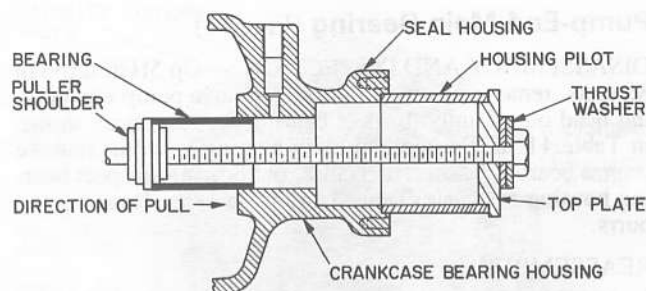

Fig. 47 — Seal-End Main Bearing (5F40, 60)
3. Press bearing into place using a puller shoulder (Table 12 and Fig. 47 and 48) and jack screw or bearing press.
DISASSEMBLY AND INSPECTION — With crankshaft removed, use a bearing puller with a shouldering device to remove and install seal-end main bearings (Fig. 47 and 48). Bearing pullers and sleeve pullers are available from the Robinair Manufacturing Company, Montpelier, Ohio.